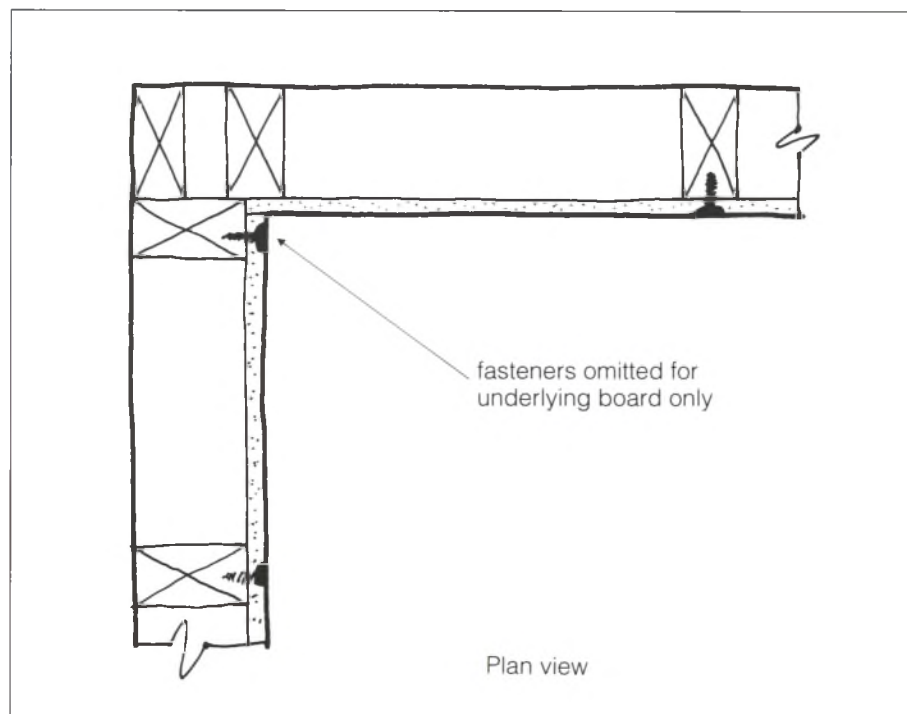

Fig. 13. Interior wall angle
- omit corner nailing for underlying board at wall/wall junction (*fig. 13*).